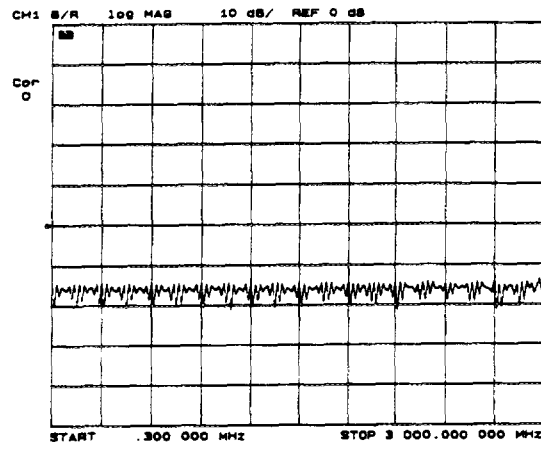

Figure 5-4. Response in the Frequency Domain (beating)
- 8 Clean the ends of the short cable device under test (3 meters) and connect it to the coupler's output/input port. Refer to Figure 5-4, and notice the response in the frequency domain. The trace is still at about -14 dB, but shows a ripple pattern caused by the reflected modulated light bouncing back and forth along the path. This effect is sometimes called beating, where re-reflected light is adding and subtracting (as a vector) to the signal as the modulation frequency is varied. The re-reflections occur because of the light bouncing off the end of the short cable (Fresnel), returning back to the coupler, and bouncing back again. This entire re-reflecting process results in the reflections beating against each other.